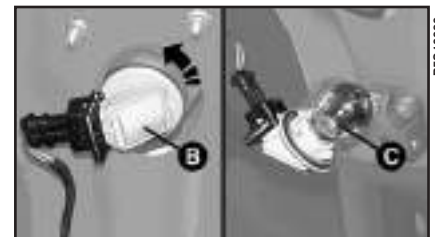

fig. 22
3) Turn the bulb holder **B**-fig. 22 anticlockwise by approximately 1/4 of a turn.